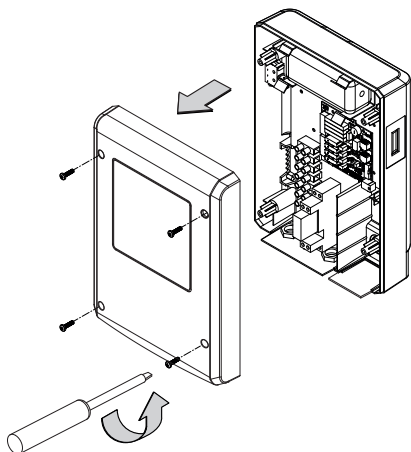

Fig. 1
- Remove the upper part of the casing. To do this, completely remove the 4 screws and then remove the upper part. (Fig. 1).